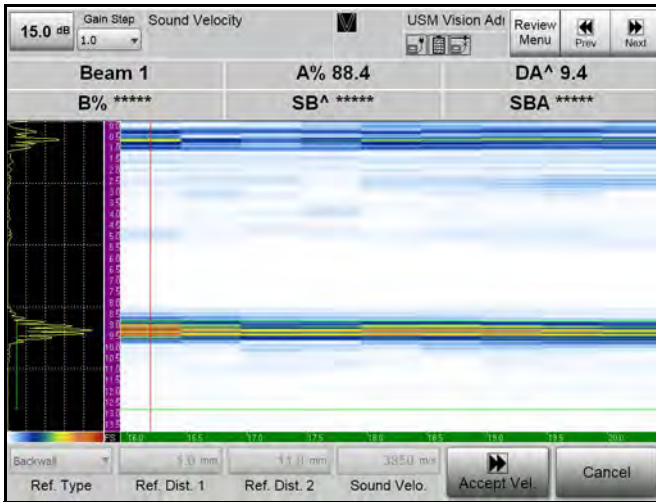

Figure 30: Sound Velocity Calculation
The instrument records the TOF of the highest echo of the envelope curve, within the TOF range given by gate A start to gate A end, when the measured TOF value is valid, and calculates the sound velocity according to formula (2) of M. Berke related document, and displays it as grayed out as **Sound Velo** (see Figure 30 on the next page).